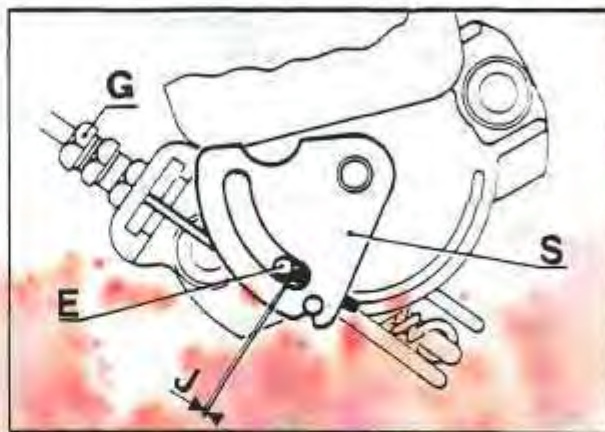

Fig. 11 GOVERNOR CONTROL CABLE ADJUSTMENT
4. Loosen the cable lock nut and adjust the cable sleeve stop (G) at the governor end to obtain clearance (J) between the quadrant arms and the 0.3 – 0.5 mm (.012 – .020 in.). *Fig. 11*